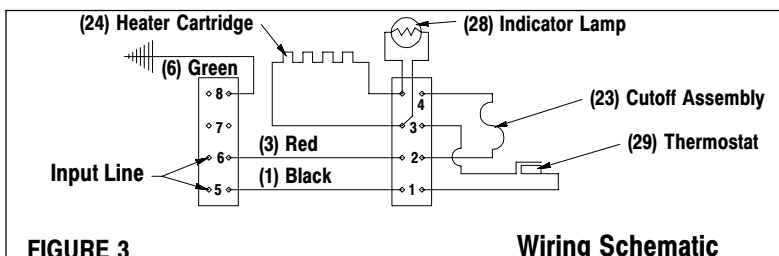

FIGURE 3
2. Rotate the (17) adjusting knob counterclockwise to the "off" position.
5. Remove the six (2) cap screws.
6. Remove the (20) cover.
7. Remove the two (12) machine screws and (11) lockwashers from the (21) housing, which retain the thermostat assembly.
8. Remove (as one unit) the (10) terminal block, (29) thermostat and (13) mounting plate by carefully lifting it out and removing the power lead wires (1 and 3) from the first two positions on the (10) terminal block (refer to figure 3).
9. Remove the (24) heater cartridge assembly leads from the (10) terminal block third and fourth positions.
10. Carefully finish removing the assembly by pulling the thermostat capillary tube out of the (22) fluid track body.